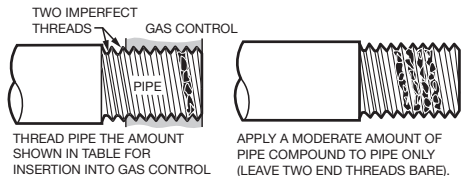

Fig. 3. Use moderate amount of pipe compound
2. Apply moderate amount of good quality pipe compound to bushing, leaving two end threads bare. See Fig. 3. On an LP installation, use compound resistant to LP gas. *Do not use Teflon tape.*
4. Apply a moderate amount of good quality pipe compound (do not use Teflon tape) to pipe only, leaving two end threads bare. On LP installations, use compound resistant to LP gas. Refer to Fig. 3.